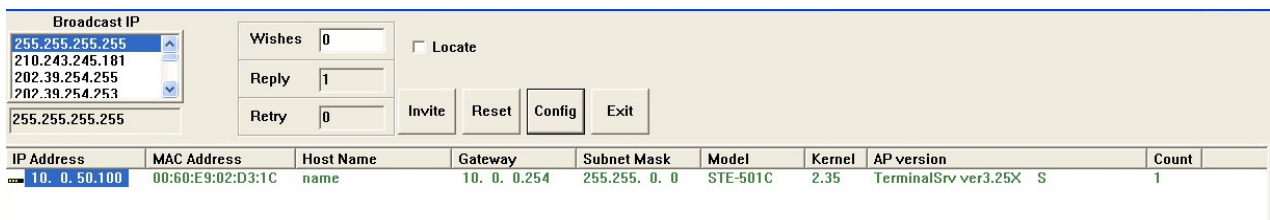
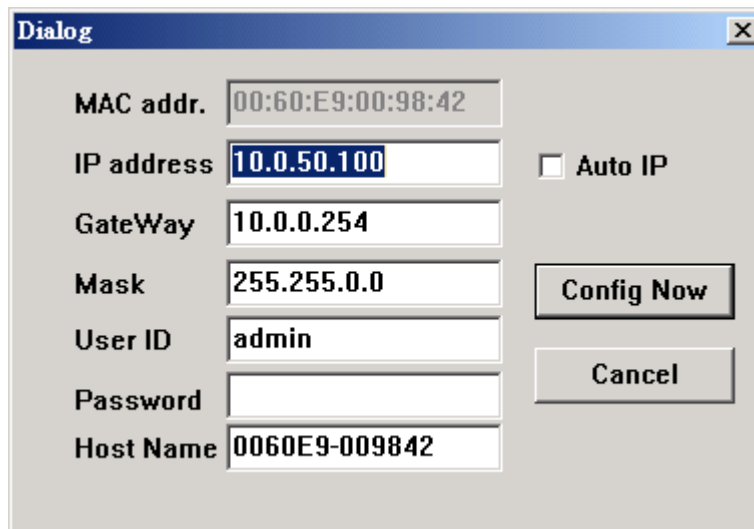

Figure 3.1 Configure by monitor.exe utility
Figure 3.2 Static IP setup dialog window
Use **monitor.exe** that comes with product CD to configure the network parameters of STE-502C. Please click "**Config**" button (ref Figure 3.1) then give it a static IP information. (ref Figure 3.2)
- >Execute Monitor.exe (Figure 3.1)